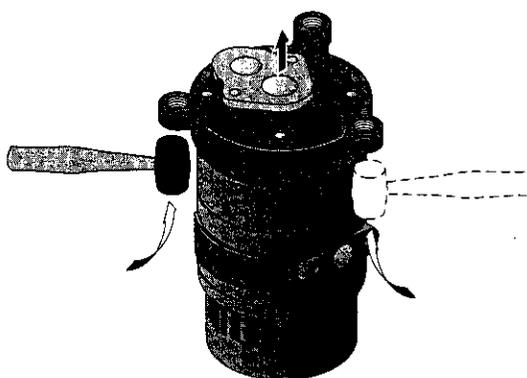

Figure 22
6. Turn the pump upside down on the bench and block it. Remove the four cap screws from the base. With a mallet, tap upward on the base to loosen it. Lift the base off of the intermediate volute (see Figure 22).